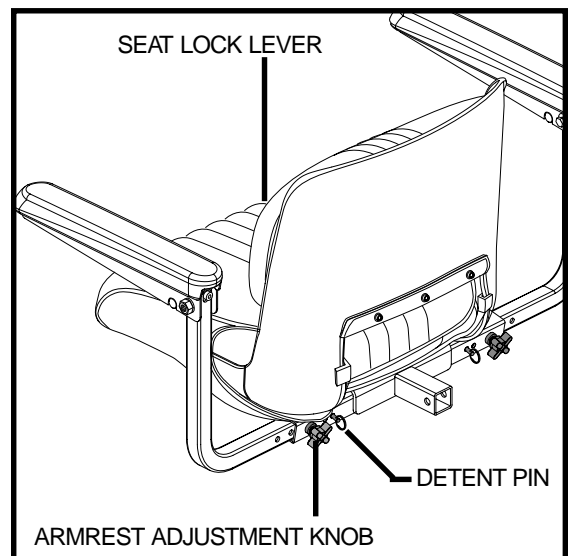

Figure 18. Seat Adjustments
1. Pull up on the seat lock lever to unlock the seat. **See figure 18.**
1. Loosen the armrest adjustment knobs. **See figure 18.**